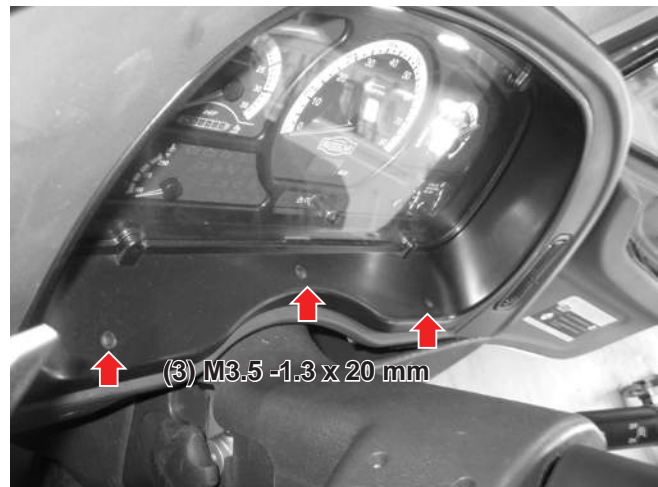

Figure 4-1
1. Remove the three screw plugs and set aside for reinstallation (see *Figure 4-1*).
2. Remove the three screws and set aside for reinstallation (see *Figure 4-1*).
3. With all screws completely removed, pull the lower portion of the cluster outwards (see *Figure 4-1*).
4. Pull the cluster downward to unhook the upper tabs (see *Figure 4-1*).